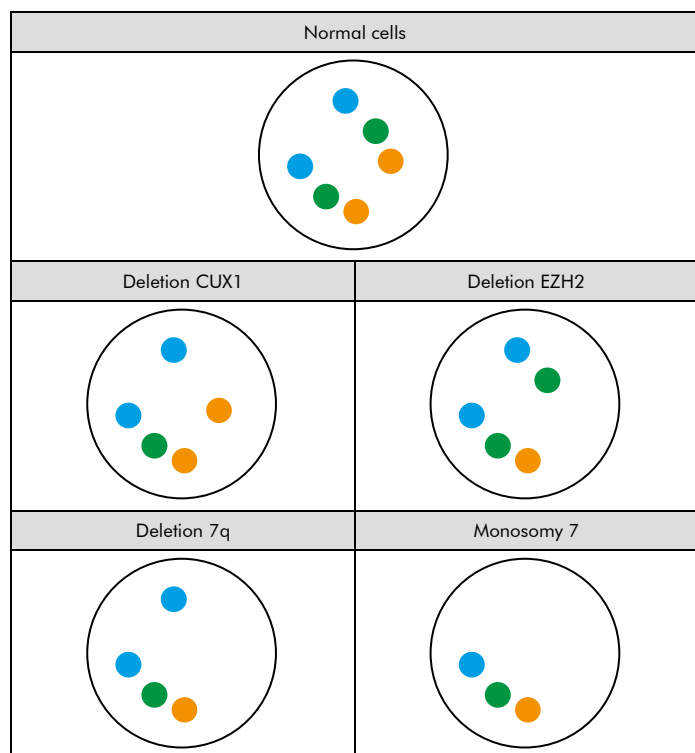

Fig. 2: Expected results in normal and aberrant nuclei
**Normal situation:** In interphases of normal cells or cells without a deletion involving the respective gene regions, two green, two orange, and two blue signals appear (see Fig. 2).
**Aberrant situation:** In a cell with deletion affecting the CUX1 gene region and/or the EZH2 gene region, a reduced number of green and/or orange signals will be observed. Deletions affecting only parts of the respective gene regions might result in a normal signal pattern with signals of reduced size. Monosomy 7 will result in a loss of one green, one orange, and one blue signal (see Fig. 2).